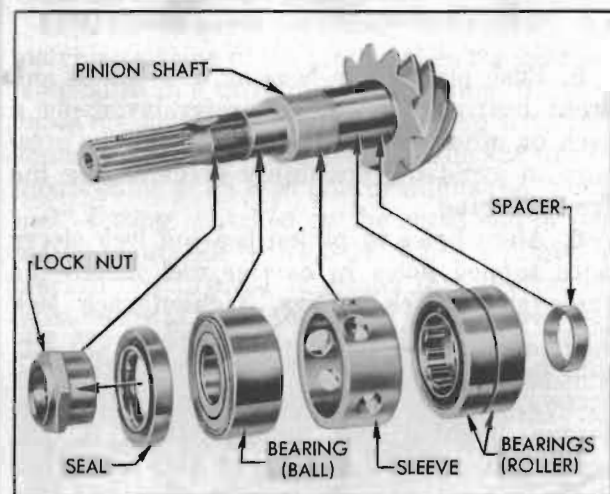

Figure 5-18—Pinion Shaft and Related Parts
1. Install parts on pinion shaft in the following order: rear bearing spacer, two rear bearings (roller), bearing lock sleeve with chamfered end toward spline, front bearing (ball) with shielded side toward spline. See figure 5-18.